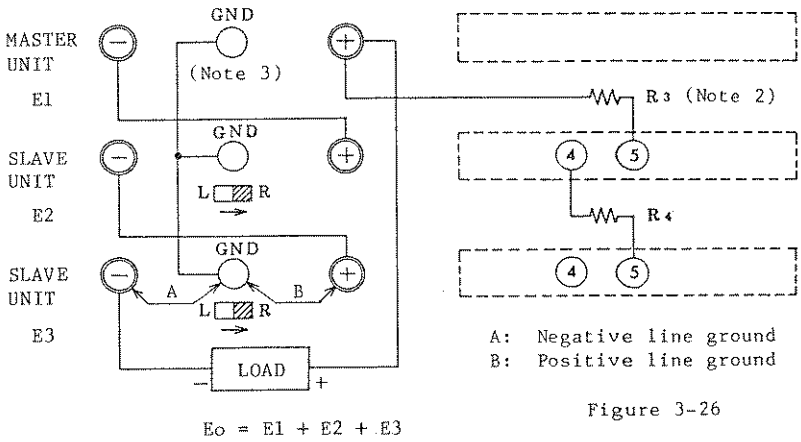

Figure 3-26
- (5) Carefully install the PC board and cover.
- (6) As shown in Figure 3-26, connect in series the output terminals of the units. Connect resistor R3 between the "+" OUTPUT terminal of the uppermost unit (master unit) and terminal ⑤ of slave unit 1 which is located next to the master unit. Connect resistor R4 between terminal ④ of slave unit 1 and terminal ⑤ of slave unit 2.
- (7) Of each slave unit, throw the R/L switch on the front panel to the R (remote) position.
- (8) Of each slave unit, turn the VOLTAGE and CURRENT setting potentiometers to the clockwise extreme positions. Remove the knobs of both COARSE and FINE VOLTAGE setting potentiometers and install the guard caps. (See Item (10) of Section 2-1.)
- (9) Connect in common the GND terminals of all units and connect the common line to the required potential line.
- (10) Turn on the POWER switches and OUTPUT switches of the slave units. Turn on the POWER switch and OUTPUT switch of the master unit.